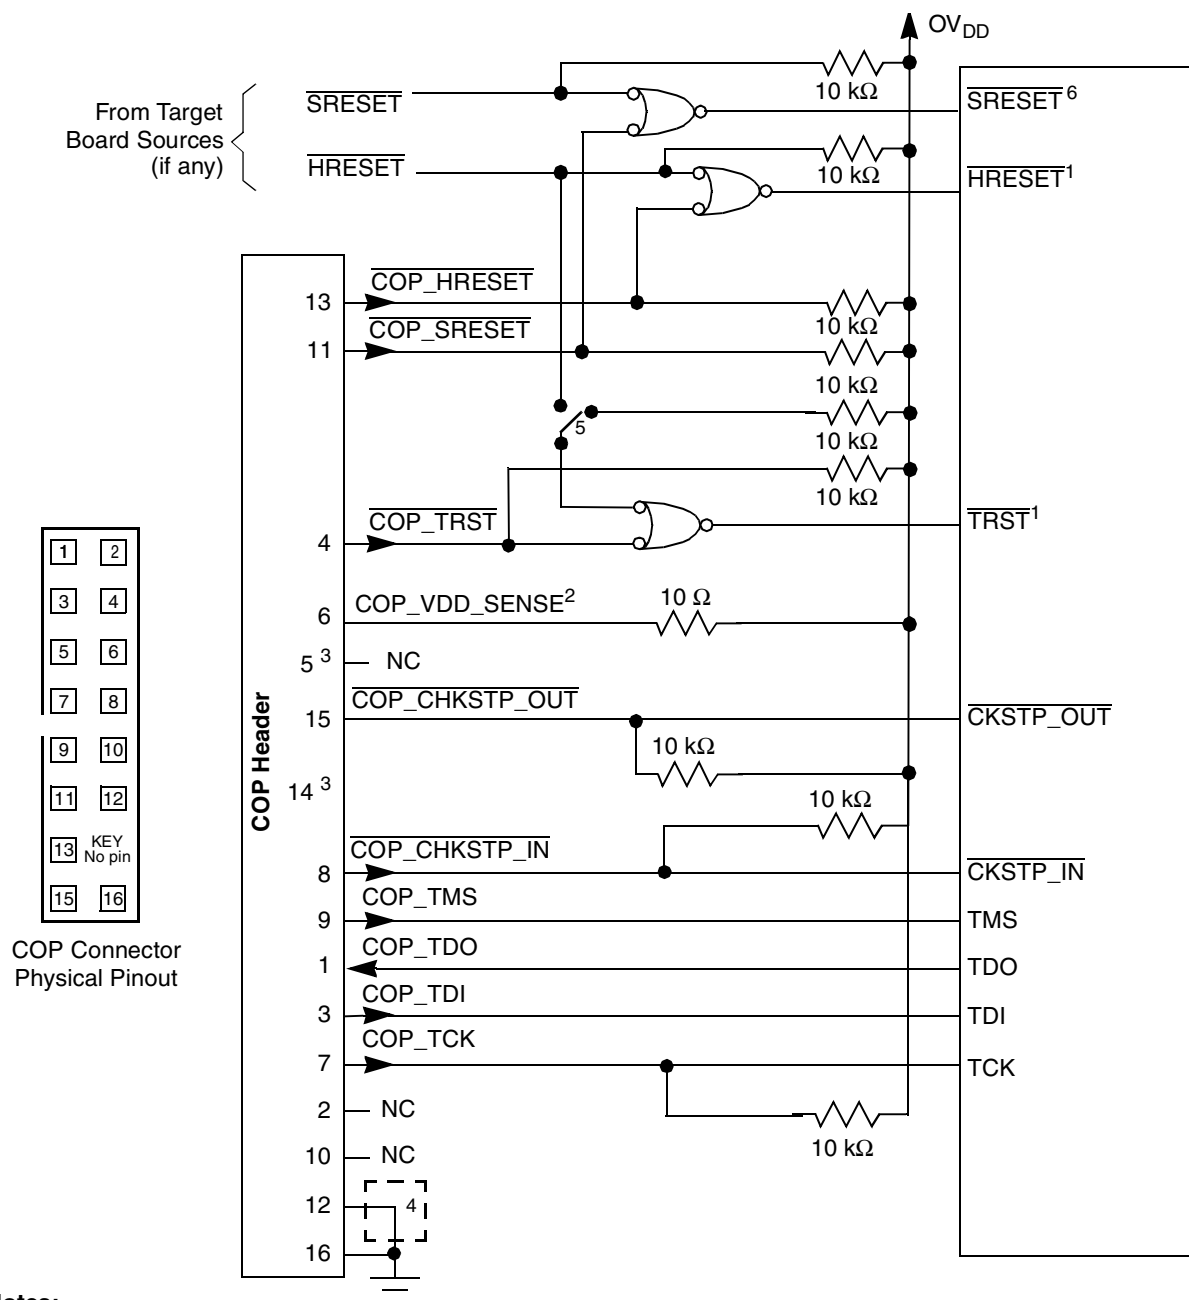

Figure 78. JTAG Interface Connection
Correct operation of the JTAG interface requires configuration of a group of system control pins as demonstrated in Figure 78. Care must be taken to ensure that these pins are maintained at a valid deasserted state under normal operating conditions as most have asynchronous behavior and spurious assertion will give unpredictable results.
The arrangement shown in Figure 78 allows the COP port to independently assert $\overline{\text{HRESET}}$ or $\overline{\text{TRST}}$, while ensuring that the target can drive $\overline{\text{HRESET}}$ as well.
- $\overline{\text{TRST}}$ should be tied to $\overline{\text{HRESET}}$ through a 0 k Ω isolation resistor so that it is asserted when the system reset signal ($\overline{\text{HRESET}}$) is asserted, ensuring that the JTAG scan chain is initialized during the power-on reset flow. Freescale recommends that the COP header be designed into the system as shown in Figure 78. If this is not possible, the isolation resistor will allow future access to $\overline{\text{TRST}}$ in case a JTAG interface may need to be wired onto the system in future debug situations.